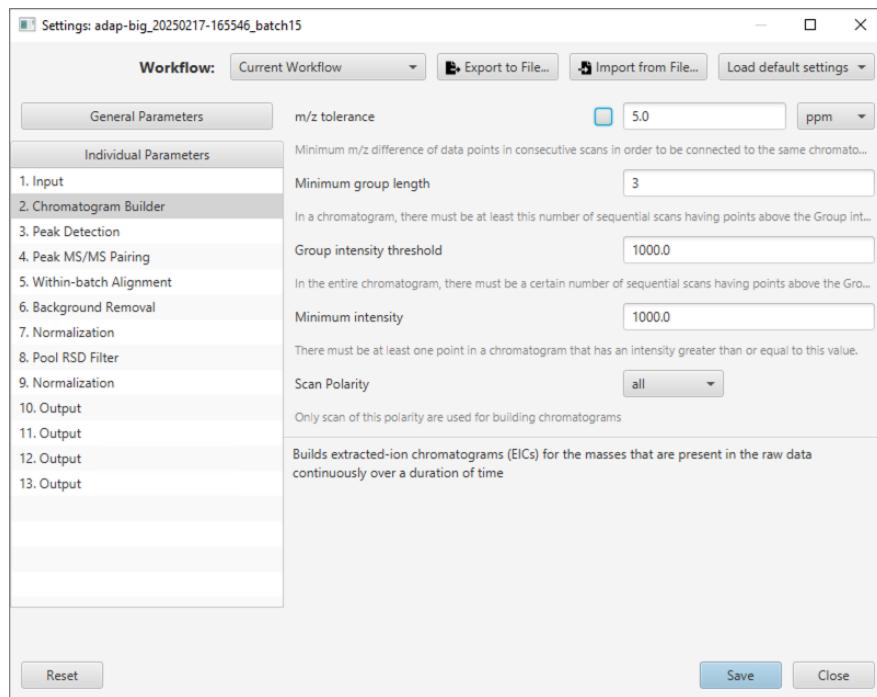

Figure 2.6: Editing parameters of workflow steps.
Users can edit parameters for each workflow step either by clicking the *Settings* button in the visualization tab of any workflow step, selecting menu *Run/Settings...*, or clicking the settings icon in the toolbar. In all cases, the Settings window will pop up (see Figure 2.6). Here, users can edit the general parameters (that can be applied to multiple workflow steps) or individual parameters of each workflow step.
**General Parameters.** ADAP-BIG contains a small number of general parameters that can be applied to multiple workflow steps. The parameter *m/z tolerance* can be set in ppm or Da, and can be used in the Chromatogram Builder, MS/MS Pairing, and LC-MS Alignment steps. The parameter *QC sample type* can be set to “blank”, “pool”, or “standard”, and can be used in the Join Aligner, Multi-batch Join Aligner, Background Removal, Normalization, and RSD Filter steps. More general parameters will be added in the future. Users need to remember that using these general parameters is optional, and they can always set the parameters of each workflow step individually. The *m/z tolerance* and *QC sample type* parameters for individual steps will have a checkbox to indicate whether the workflow step should use the value of the corresponding general parameter (e.g., see the *m/z tolerance* parameter of the *Chromatogram Builder* step in Figure 2.6).